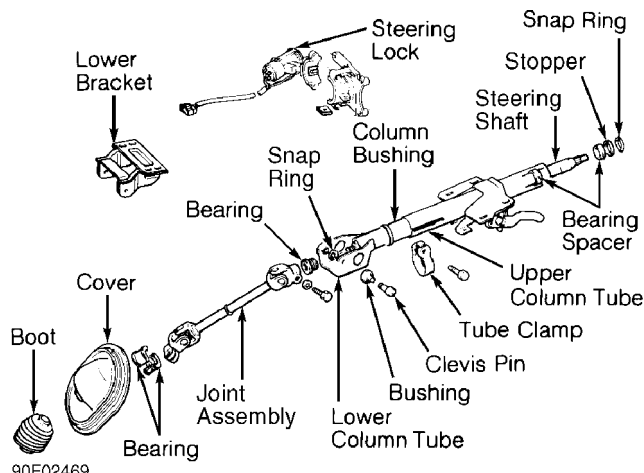

Fig. 5: Exploded View of Steering Column Assembly (Eclipse & Galant)
1) Remove steering column. See STEERING COLUMN R & I. Remove joint assembly. Remove boot, bearing and cover. Remove snap ring, stopper and spacer. See Fig. 5.